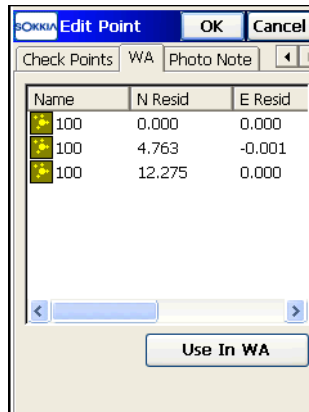

Figure 6-7. Weighted Average
- When editing a point which has a station available for Weighted averaging, the **WA** tab will display on the *Edit Point* screen. The **WA** tab displays coordinate residuals of the check point. Tap the **Use In WA/Exclude from WA** button to control either to use or not to use the station as a weighted average (Figure 6-7).